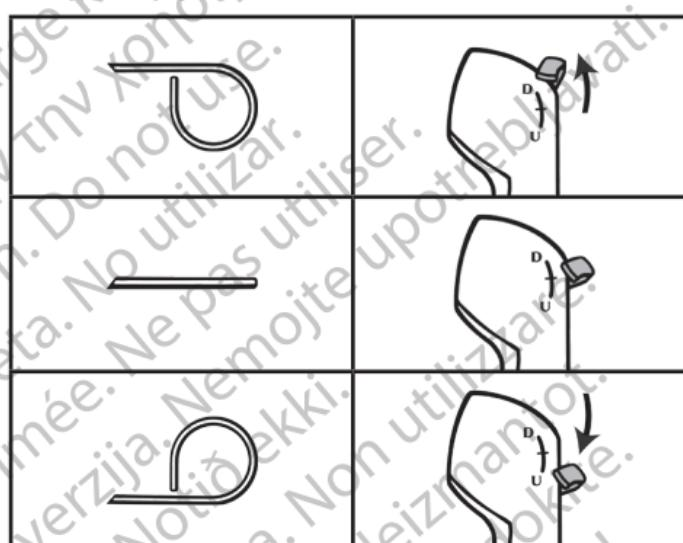

Figure 3. Articulation control can be standard or reversed depending upon model used
Articulation lever — The articulation lever controls the up and down articulation of the distal tip. Depending on the model, the articulation control can be standard (lever up = tip up) or reverse (lever up = tip down) (Figure 3). Returning the articulation lever to the Neutral position causes the distal tip to return to its unarticulated position.
- For standard-type ureteroscopes, moving the articulation lever up moves the distal tip up. Moving the articulation lever down moves the distal tip down (Figure 3).
- For reverse-type ureteroscopes, moving the articulation lever up moves the distal tip down. Moving the articulation lever down moves the distal tip up (Figure 3).